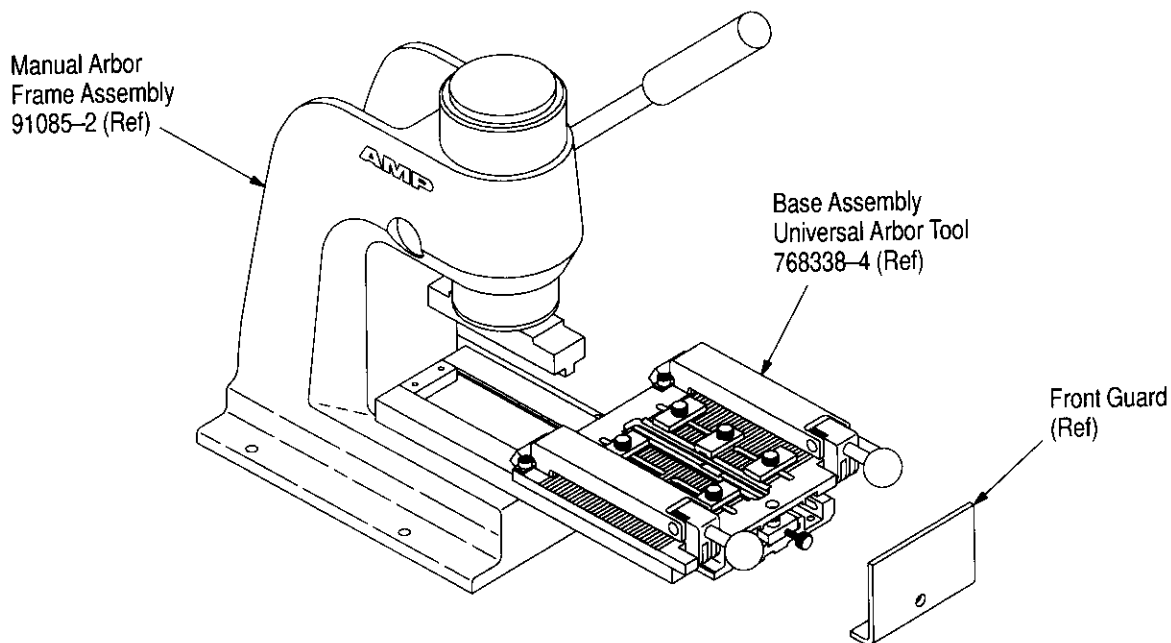

Figure 1
This instruction sheet covers the installation and setup procedures for AMP* Connector-Specific Kit 679167-4. The connector-specific kit is used in conjunction with Base Assembly Universal Arbor Tool 768338-4 and AMP Manual Arbor Frame Assembly 91085-2 (see Figure 1), or AMP Pneumatic Auto-Cycle Unit 91112-3 to terminate AMPMODU System 50 Receptacle Connectors to 0.64 mm [.025 in.] centerline flat ribbon cable.
2. DESCRIPTION (Figure 1)